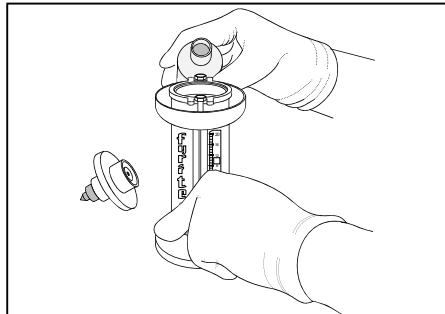

Figure 1b. Preparing to fill FYRITE using recommended protective safety equipment.
- 2) Read the instruction manual thoroughly. When filling the FYRITE with the applicable fluid charge, use safety equipment and perform the operation in the vicinity of running tap water (Figure 1b).